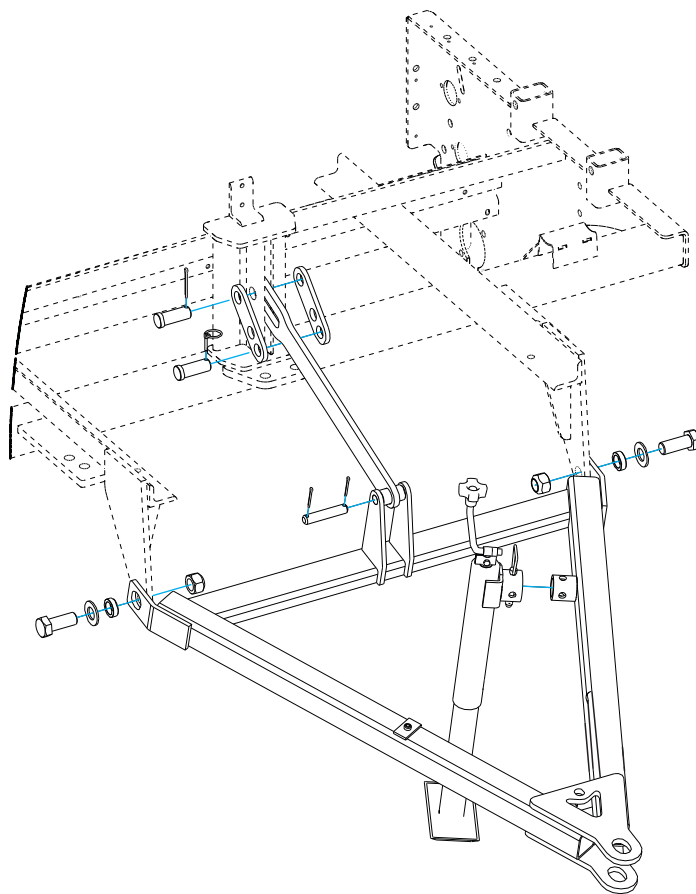

Figure 3-1: Pull Type Seeder Drawbar Installation
2. Attach Drawbar to the outside of the Frame with two 1-8 X 2-1/2" Capscrews, Bushings, Flat Washers and Lock Nuts. See Figure 3-1.